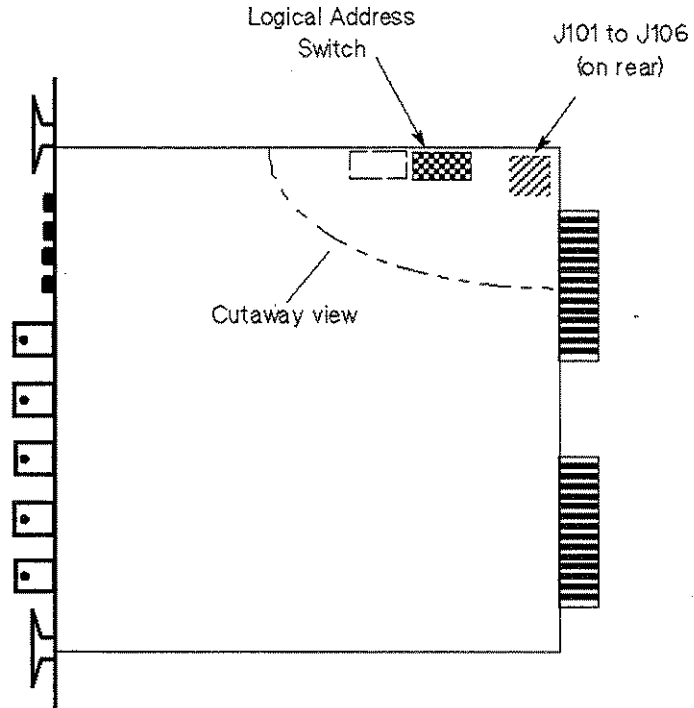
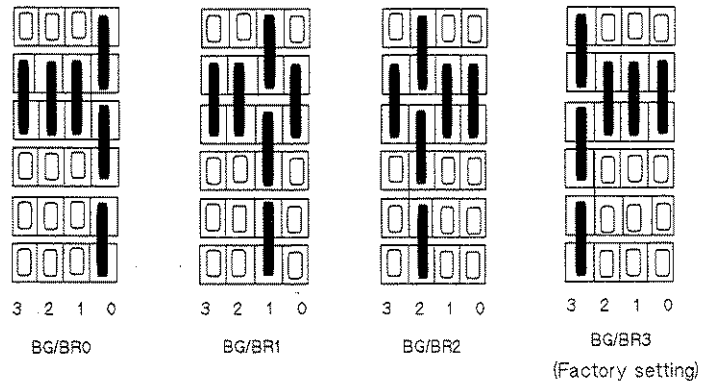

Figure 2-1. Address Switch and Jumper Location
Figure 2-3. Jumper J101 Links Settings
Figure 2-1 shows the location of the HP E1440A logical address switch. Access to alter the switch settings may be gained through a cutout in the module cover.
On the left hand side, close to the VXIbus connectors, mounted on the circuit land side of the control printed circuit board, there are several connecting links which you can change to alter the module configuration for control interrupt priority. The link locations are shown on Figures 2-1, 2-2 and configurations are shown on Figure 2-3. Access is gained through a cutout in the cover.
2. Refer to figure 2-3 and remove the single jumper from the column where you want the full column jumpered according to the BG/BR level you require